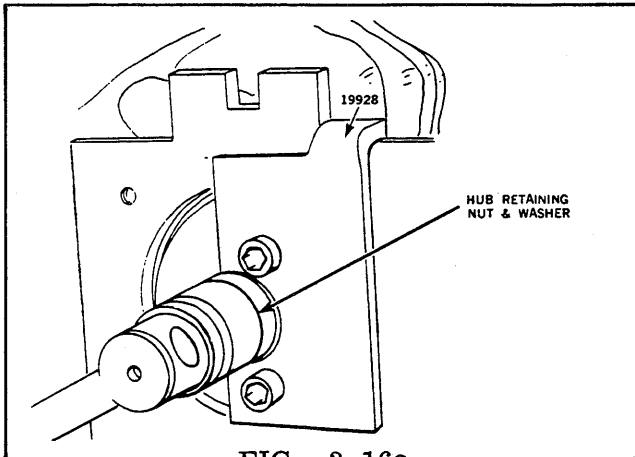

FIG. 3.16a
STEP 16 Install Tool No. 19928 on the gear hub, loosen and remove the hub retaining nut and washer (Fig. 3.16a).